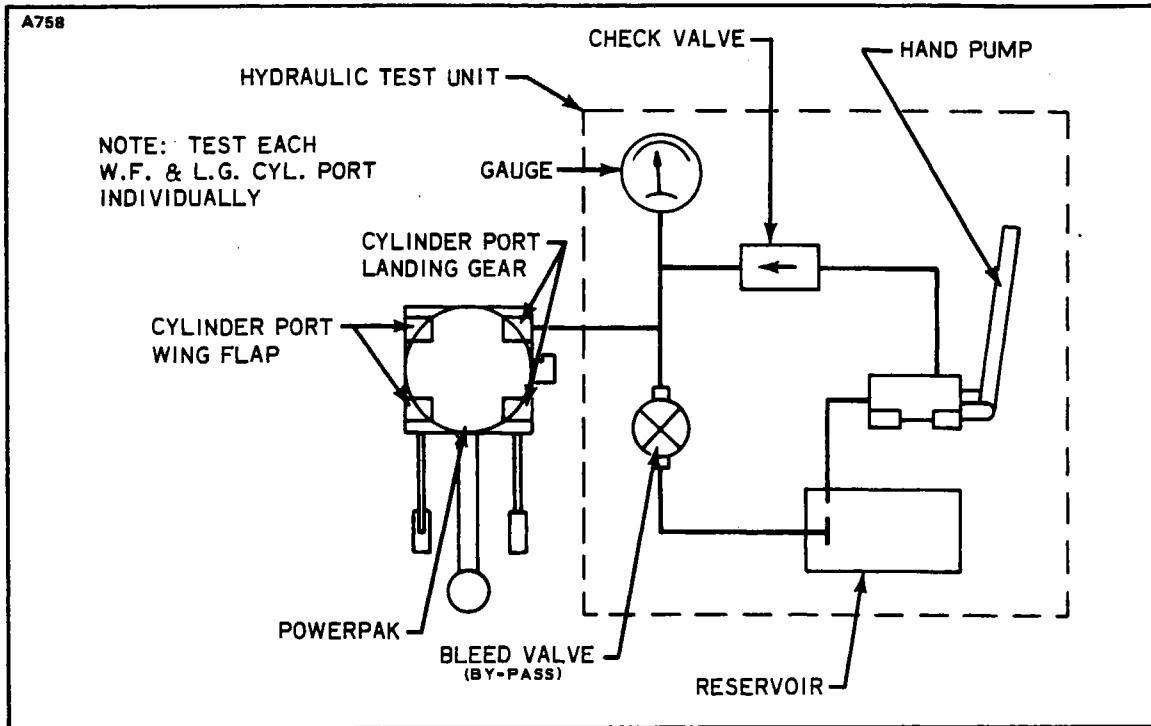

Figure 6-21. Checking and Adjusting Powerpak
1. Hydraulic test unit as described in paragraphs 6-5 or 6-6 and arranged as shown in Figure 6-21 and 6-22.
- a. Connect the pressure line of a hydraulic test unit to the landing gear extension port (C2) fitting at the right forward side of the powerpak. (Refer to Figure 6-21.)